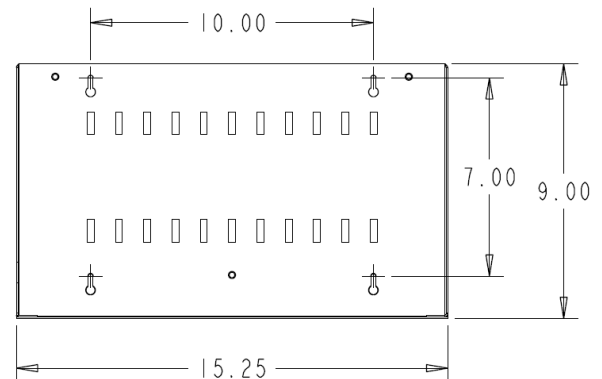

Figure 2
- 2) If desired, wall mounting can also be accomplished with use of the optional mounting shelf (See Optional Mounting Shelf and Figure 2).